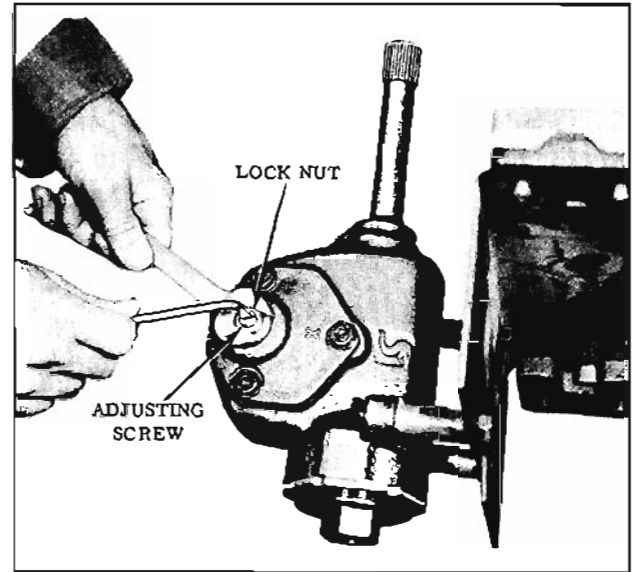

Fig. 8-10 Over-Center Adjustment
6. After making the worm bearing adjustment, the pitman shaft adjusting screw should be tightened until a pull of 4 to 10 inch pounds in excess of worm bearing pre-load is required to turn the wheel through the center range. (Approximately 2-7/8 turns from either end of travel on car or 3-1/8 turns for bench adjustment) (Fig. 8-10) Tighten the locknut 18 to 27 ft. lbs. and recheck the over-center adjustment.